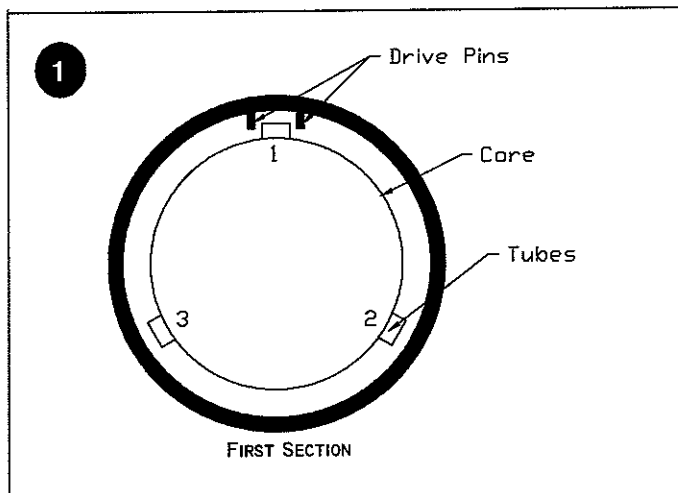

figure 8
- a. Number the tubes on the core as 1, 2 and 3 (fig.8).
- b. Slide the first section onto the core with the drive pins on either side of tube 1. Make sure that the drive pins angle up (fig.8).